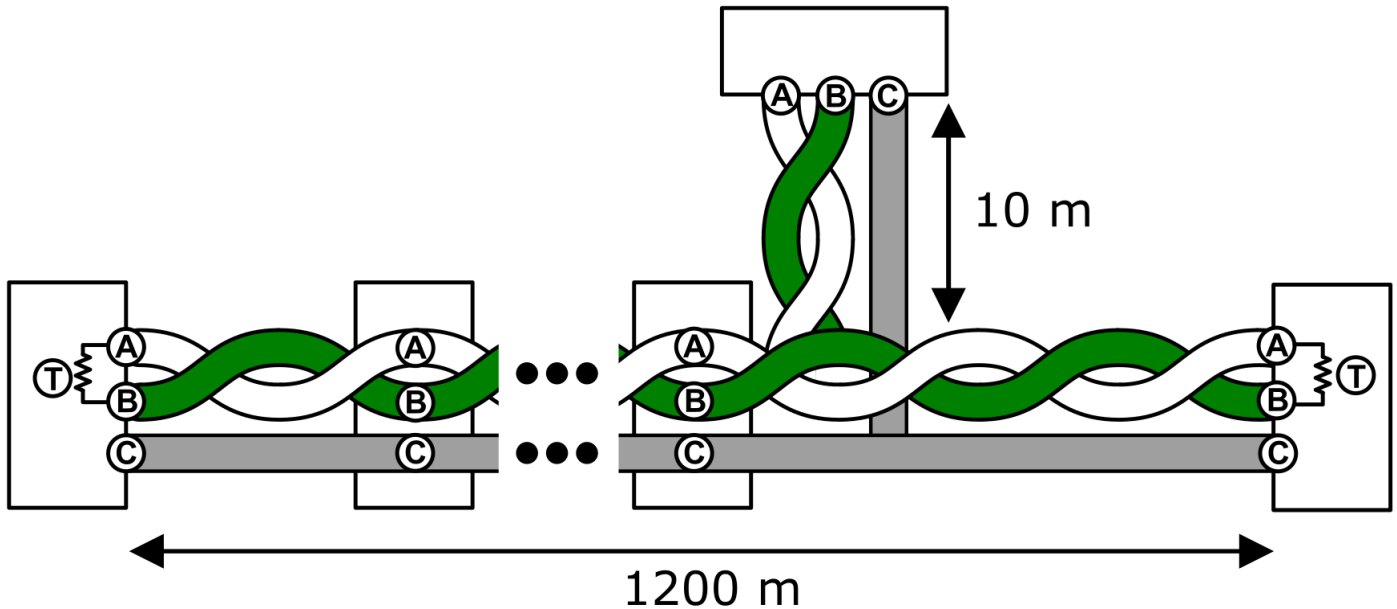

fig. 3
Twisted pair cable is used as a wire in the RS485 bus (A and B). The RS485 bus has a straight line topology with a maximum length of 1200 m. Straight line topology is recommended, and when we can't avoid a branch, let's try not to exceed 10 m. Star and ring topology should be avoided. Terminating resistors (T) must be activated at the extreme ends of the bus (fig. 3).